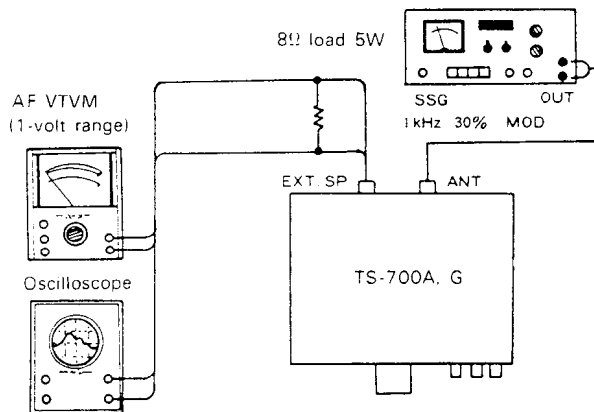

Fig. 17
Cable the equipments as shown in Fig. 17.
- 1) Referring to Fig. 17, feed the SSG output of 146.5 MHz (700A), 145MHz (700G), not modulated, at 10μV (20 dB) into the transceiver set for FM mode reception. The input level should be such that the pointer of "S" meter will swing to and stay at the middle position on the scale.